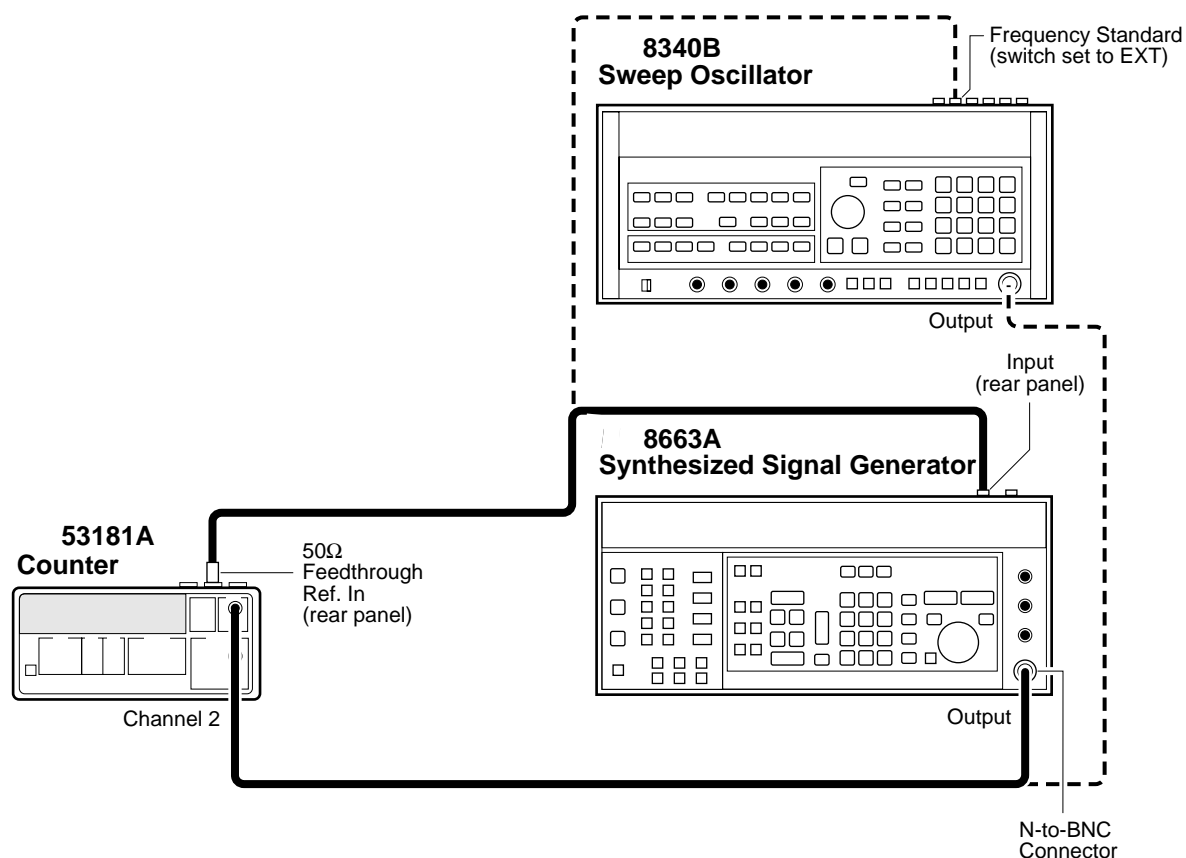

Figure 1-15. Option 015/030/050/124 Channel 2 Frequency Accuracy Test Setup
- 1 Connect equipment as shown in Figure 1-15.
- 5 Disconnect the Agilent 8663A output from Channel 2 of the Counter, and connect the Agilent 8340B Sweep Oscillator output to Channel 2 of the Counter as shown in Figure 1-15.